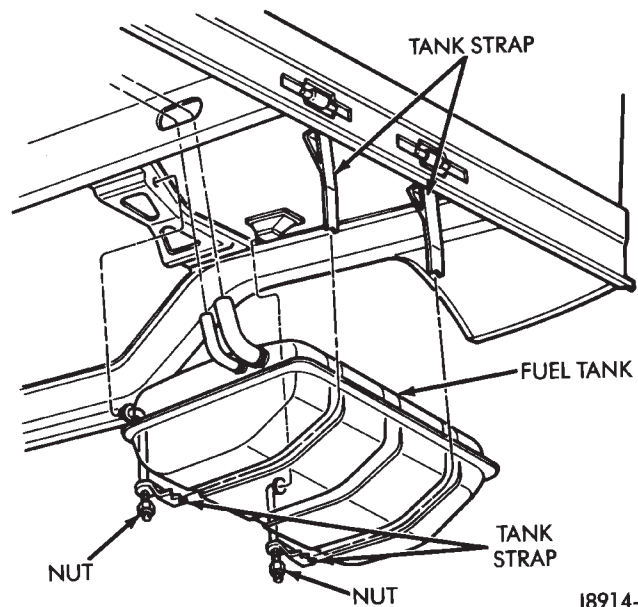

Fig. 3 Fuel Tank Remove/Install—XJ Models
- (9) Remove fuel tank shield (Fig. 3).
- (10) Center a transmission jack under the fuel tank.
- (11) Remove support strap nuts. Move straps away from tank (Fig. 3).
- (12) Lower fuel tank on transmission jack.